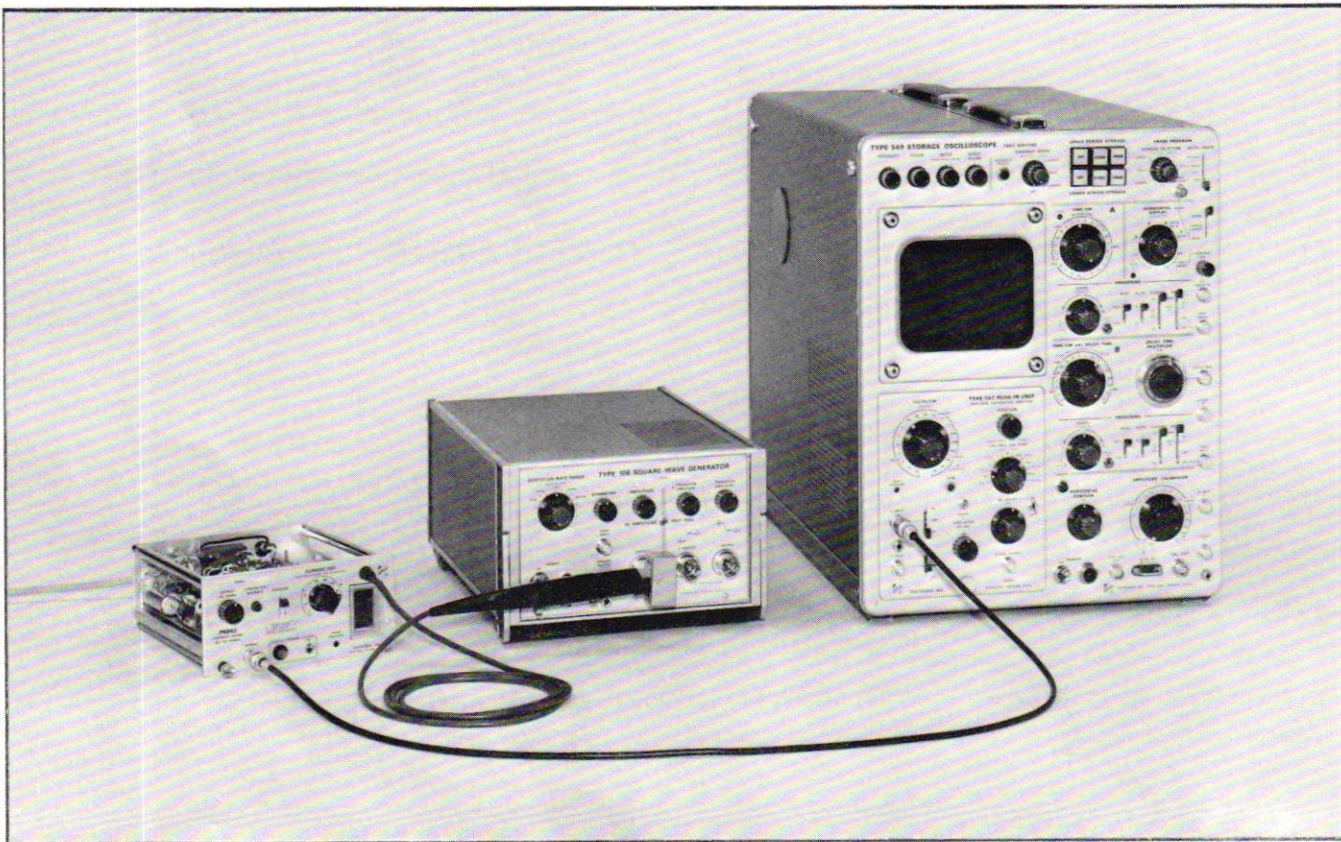

Fig. 6-12. Test setup for steps 10 and 11.
f. Set CURRENT/DIV to 5 mA and Volts/cm to 50 mV. Degauss the probe and connect to the current loop. See Fig. 6-12.
e. Connect the test equipment is in Fig. 6-12.
- Switch CURRENT/DIV to 10 mA and remove the two 10× attenuators. Connect current loop and probe as in Fig. 6-12.